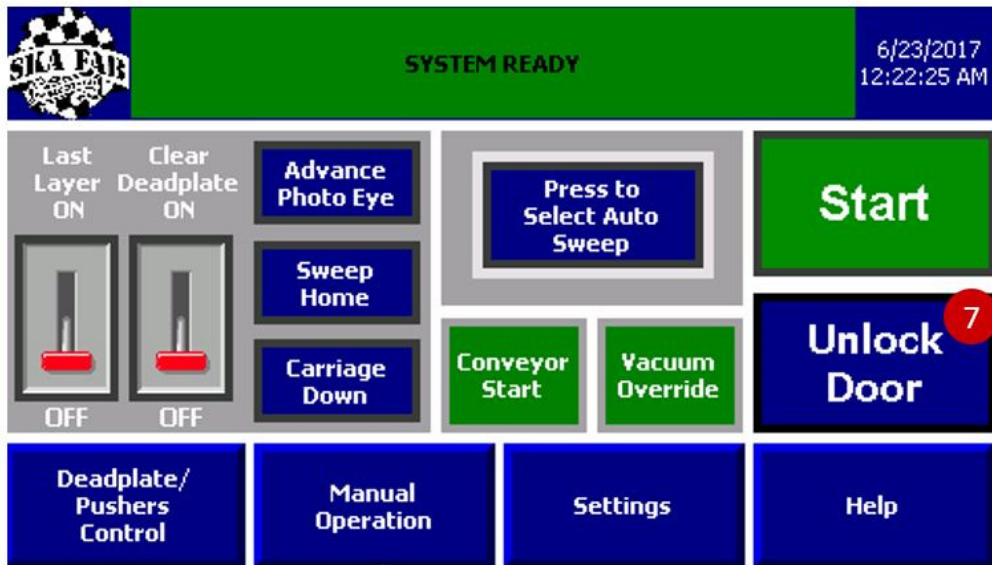

Figure 3: Home/ Main Operations Screen - Door Locked
- 6 **Lock Door:** This button is visible if the safety door is closed and latched and is used to secure the safety door prior to any operations of the depal including the sweep or lift. When the door lock button is pressed, the button is replaced with the START button, and the Unlock Door button will appear below it as shown in Figure 3.